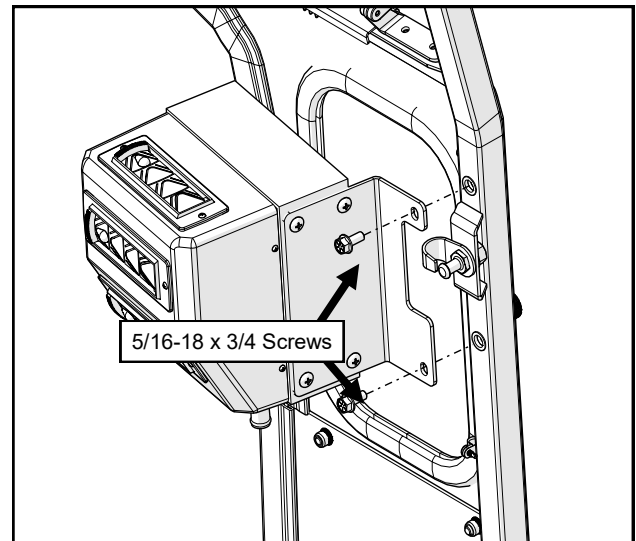

Fig. 1.2 (Install Heater)
- 1.2 Remove hardware already in place on the right A-Pillar and attach the heater bracket to the right A-Pillar. See Figure 1.2. Tighten hardware.